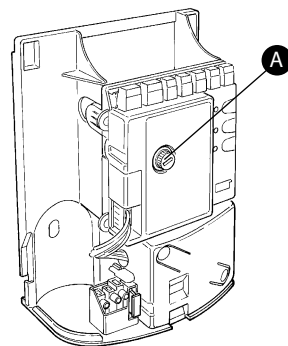

Fig. 2
4. Replace the Mhouse CL2 control unit fuse [A] (2A type T) in Fig. 2 with the one supplied with the EL1 interface (3.15 A type F).